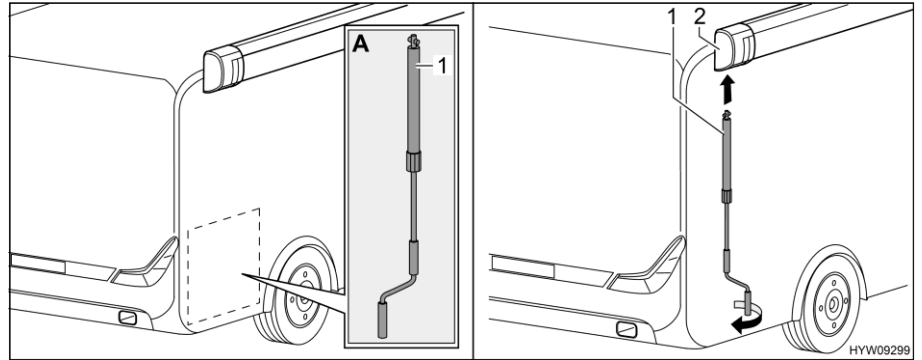

Fig. 28 Installing crank
- Take crank (Fig. 28,1) out of the rear garage (Fig. 28,A).
- Insert crank into bayonet socket (Fig. 28,2) of the awning.